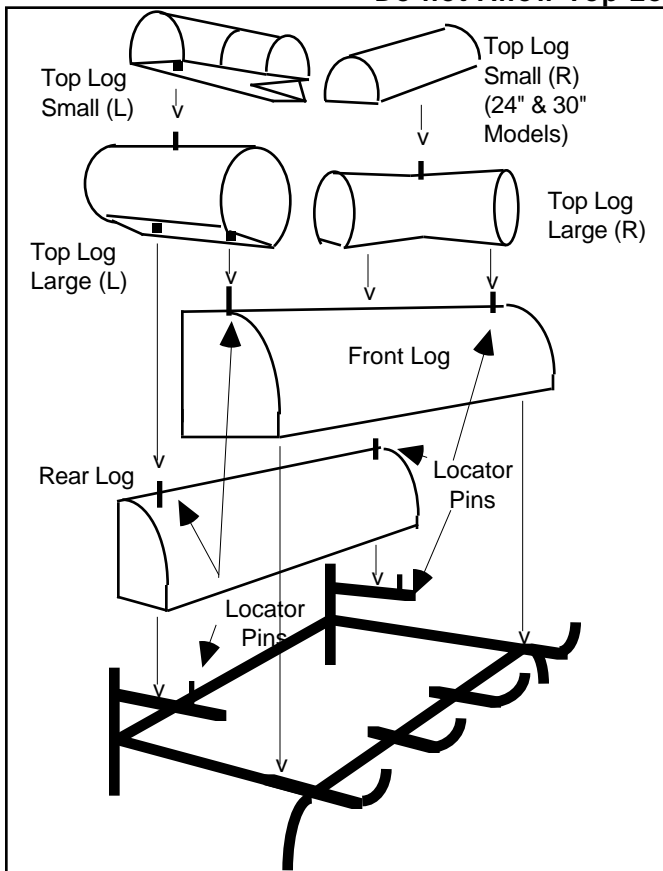

Figure 6
- Maintain log positioning as shown in Figures 6 and 7 at all times.